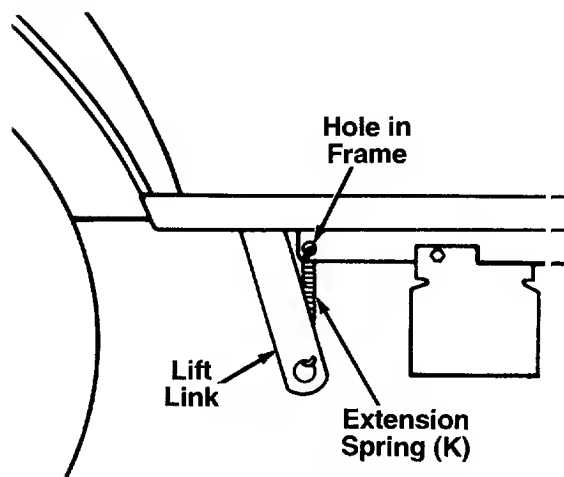

FIGURE 14.
26. If there are holes provided in the tractor frame, hook the lift links up out of the way using the four extension springs (K). See figure 14.